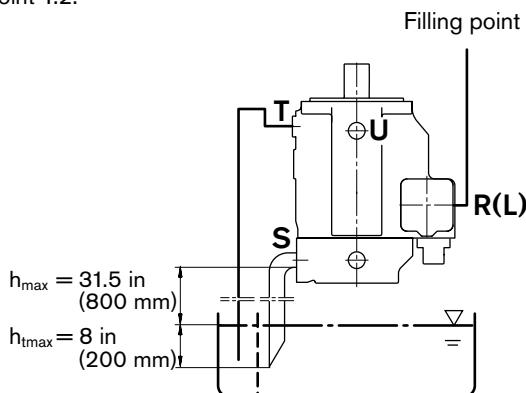

Fig. 2
b) When the minimum fluid level is below the mounting flange area: ports »R/L«, »T« und possibly »S« must be piped as shown in fig. 2. Also observe the conditions as shown in point 1.2.